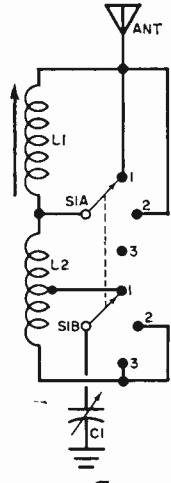

Fig. 3. This coupler is more flexible. A double-pole, 3-position switch selects portion of band to be heard, .001- $\mu$ f. capacitor C1 fine-tunes.
**Still Better.** A more elaborate, more flexible coupler will work with any antenna length (Fig. 3). The author utilized parts available in the junk box, using coil *L2* for maximum coupling to the receiver. This coil was salvaged from an old receiver as was capacitor *C1*, made by paralleling the three sections of an old tuning capacitor.
To use the coupler shown in Fig. 3, tune in a station near 540 kc., with the plates of capacitor C1 (.001  $\mu$ f.) fully meshed, and adjust the slug in coil L1 for maximum volume. Then you can use switch S1 to rough-tune the coupler, and capacitor C1 to fine-tune. The switch positions and frequency ranges are as follows: